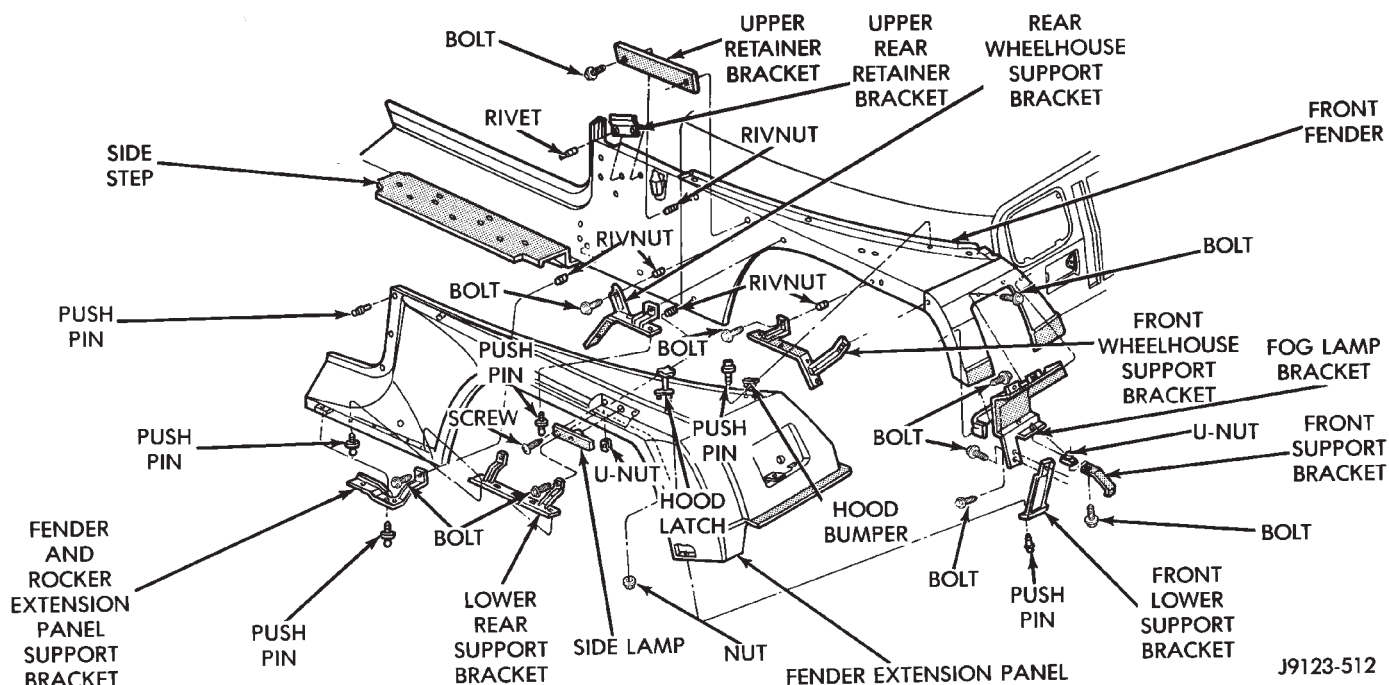
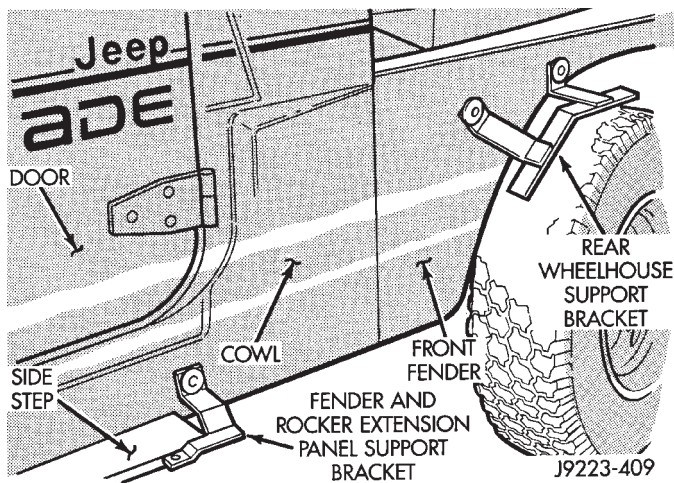

Fig. 49 Front Fender Extension Panel
Fig. 50 Front Fender Extension Panel Removed
(1) For convenience, lift the vehicle to a comfortable height on a hoist. Support the vehicle.
(2) Remove the radio antenna mast from the fender extension panel.
(3) Remove the hood bumper from the extension panel.
(4) Remove the fog lamp from the extension panel. If necessary, refer to the removal procedure.
(5) Detach the hood latch from the hood.
(6) Disconnect the side marker lamp wire harness bulb socket.
(7) Remove the push pins that attach the fender extension panel to the support brackets (Fig. 49). Remove the panel from the front fender.
(8) If necessary, remove the hood latch and the side marker lamp from the extension panel (Fig. 49).
(9) Remove the retaining bolts and the support/retainer brackets from the front fender (Figs. 49 and 50).
The fender and rocker extension panel support bracket (Fig. 50) also supports the rocker extension panel. Before the bracket can be removed, the rocker extension panel must first be separated from the bracket.
(1) If removed, install the hood latch and the side marker lamp on the extension panel (Fig. 49).
(2) If removed, install the fender and rocker extension panel support bracket (Fig. 50), and attach the rocker extension panel to the bracket.
(3) Position the support/retainer brackets on the front fender and install the retaining bolts. Tighten the bolts to 10 N·m (7 ft-lbs) torque.
(4) Position the extension panel on the brackets and install the push pins (Fig. 49).
(5) Connect the side marker lamp wire harness bulb socket.
(6) Install the fog lamp in the extension panel. If necessary, refer to the installation procedure.
(7) Attach the hood latch to the hood.
(8) Install the radio antenna mast.
(9) Install the hood bumper on the extension panel.
(10) If applicable, remove the support and lower the vehicle.